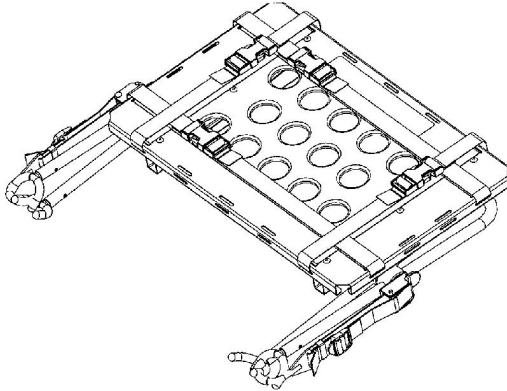

Figure 66a
1. Place the defibrillator platform in the stored position as shown in Figure 66a.